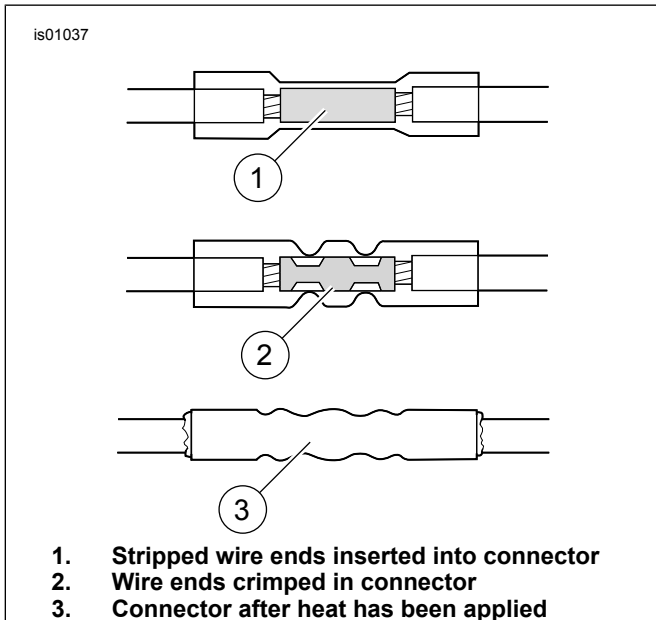

Figure 9. Sealed Splice Connections
- e. See Figure 9. From cut ends, insert one orange/white wire into one end of splice connector. In other end of splice connector, insert other orange/white wire with red wire from adapter harness.
- d. See Figure 9. Insert the orange/white wire from step 4b into one end of sealed splice connector.
- e. See Figure 9. Insert the red wire from adapter harness into other end of sealed splice connector.